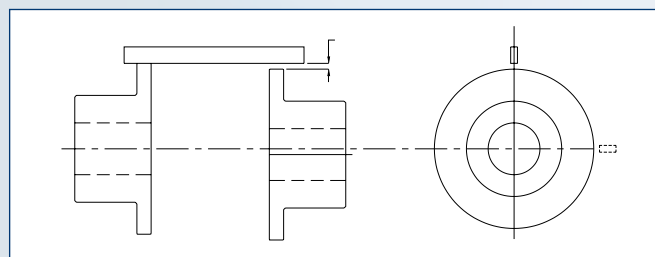
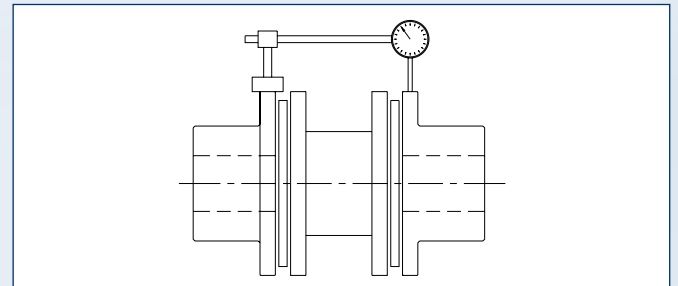

Fig. 6
Fig. 7
1. Initial parallel alignment can be checked by using a straight-edge across the hub flanges (per Fig. 6) to measure the approx. distance (r) as shown in Table 6. A more precise method is using the dial indicator whereby the parallel off-set is measured in at least two places 90 degrees apart while rotating one hub. This is shown in Fig. 7.